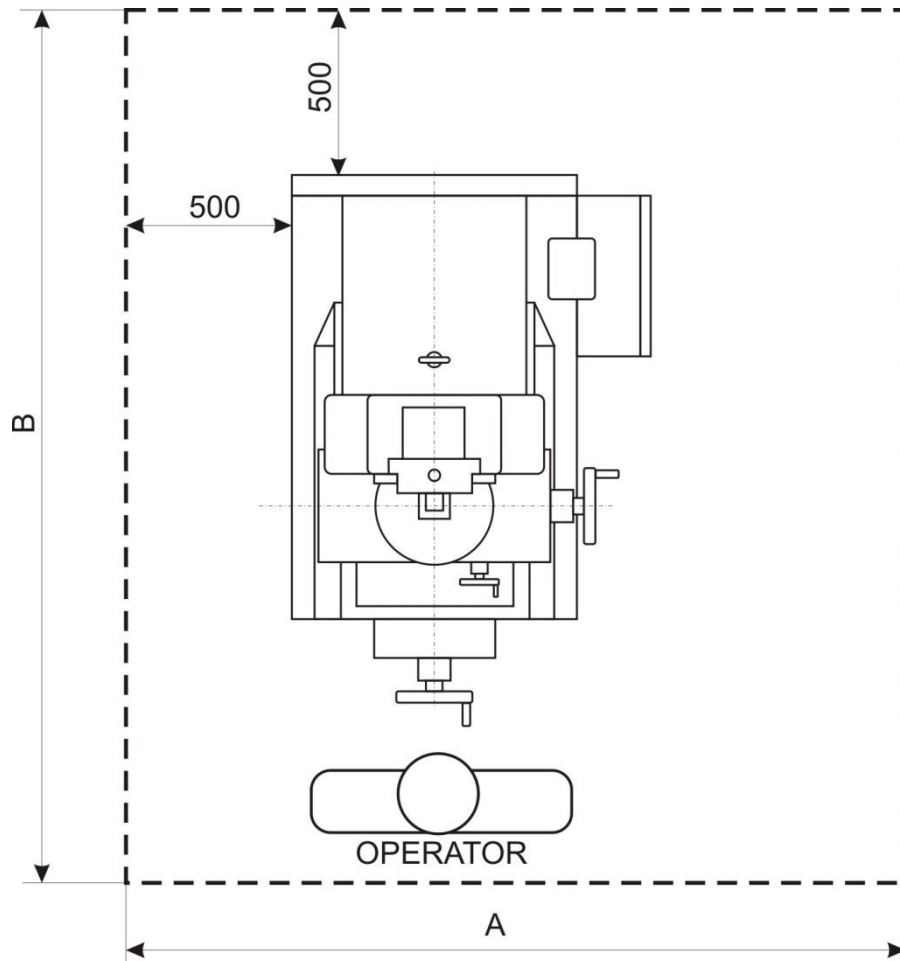

fig. 1
- maintenance and repair area should be ensured, according to the dimensions in fig. 1